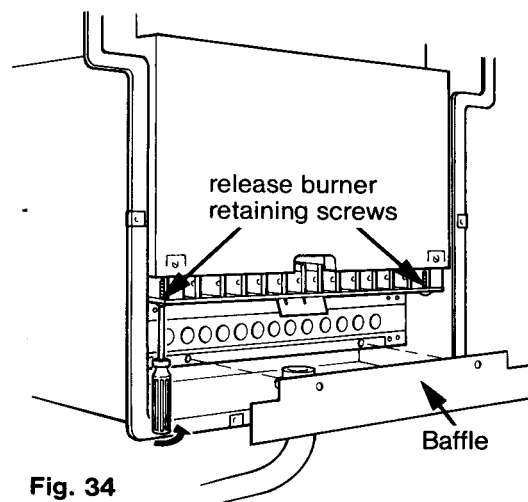

Fig. 34
8.7.2 Release two screws and remove baffle plate. (fig. 34)